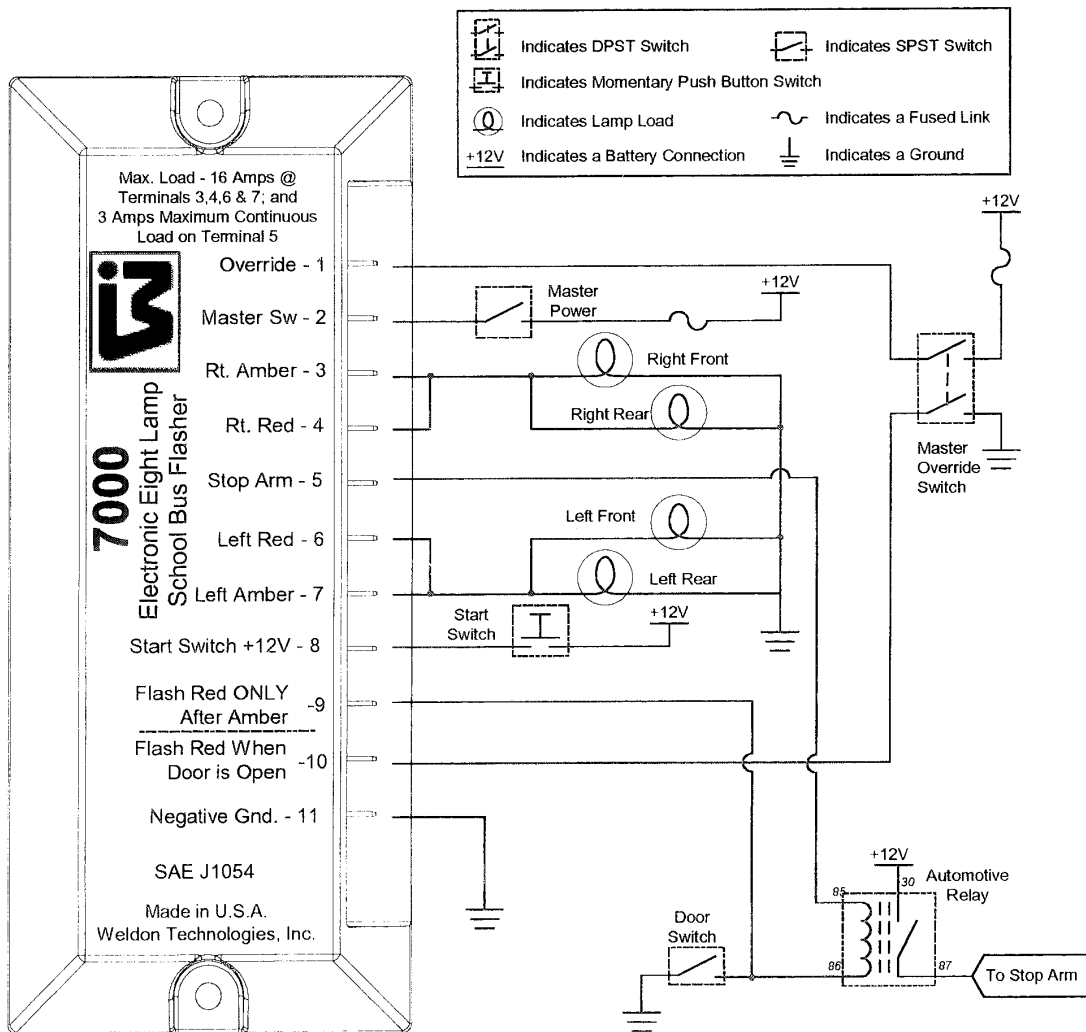

Figure 3 – Four-Lamp Sequential Flasher Wiring Diagram with Master Override Switch
3. If using this flasher on a 4-way warning lamp system, the unit can be operated in sequential mode by controlling the stop arm through a relay - as shown in Figure 3.
A typical 4-lamp warning system installation is shown in Figure 3 below. With this setup, the flasher will alternately flash the red lamps after the Start switch is depressed. When a "door open" condition is detected the stop arm will be activated and the reds will continue to flash. When the door is "closed" the reds will finish cycling and the stop arm will return to the side of the vehicle.